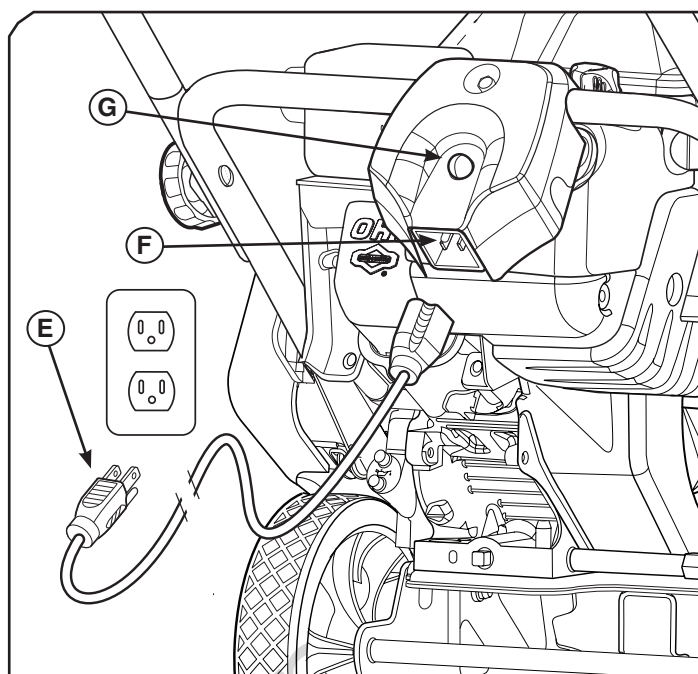

Figure 3
6. **Rewind start:** Firmly hold the starter cord (D). Pull the starter cord slowly until resistance is felt, then pull rapidly.
7. **Electric start:** First connect the power cord (not supplied) (E, Figure 3) to the starter receptacle (F) and then into a wall receptacle. If an additional power cord is required, ensure it is a three-conductor cord.
8. **Electric start:** Press the starter button (G). After the engine starts, disconnect the power cord from the wall receptacle first and then from the starter receptacle.